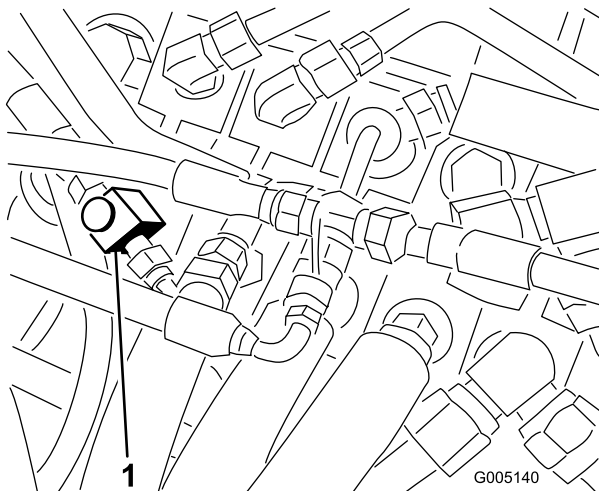

Figure 46
1. Raise the seat and locate the flow control valve mounted to the main control valve (Figure 46).